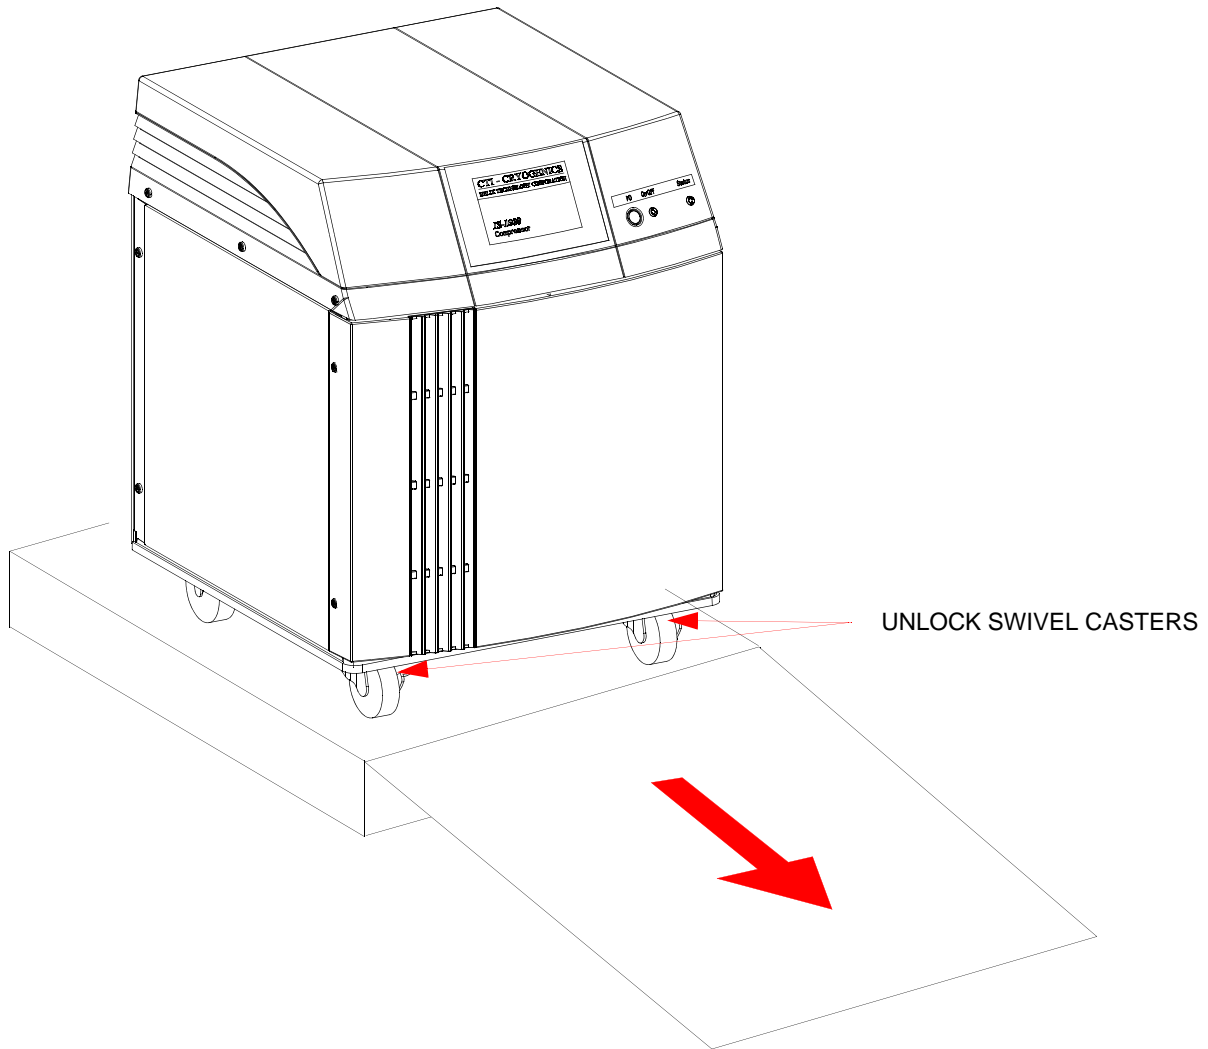

Figure 3-1: Using the Shipping Carton Ramp
4. Swing the ramp down until the end touches the floor as shown in Figure 3-1 on page 3-3.
6. Unlock the swivel casters as shown in Figure 3-1 on page 3-3.
7. Carefully roll the Compressor down the ramp and onto the floor as shown in Figure 3-1 on page 3-3.